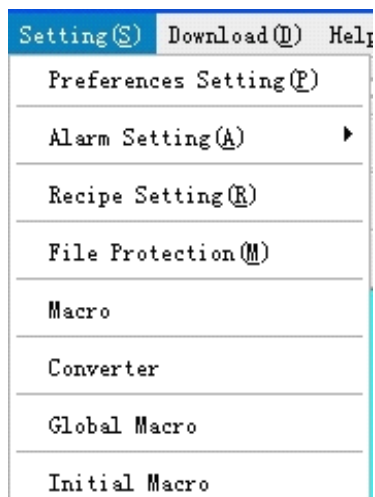

Figure 2-30: Setting menu
“Setting” menu consists of the following commands: Preferences Setting (P), Alarm Setting (A), Recipe Setting (R), and File Protection (M). See Figure 2-30.